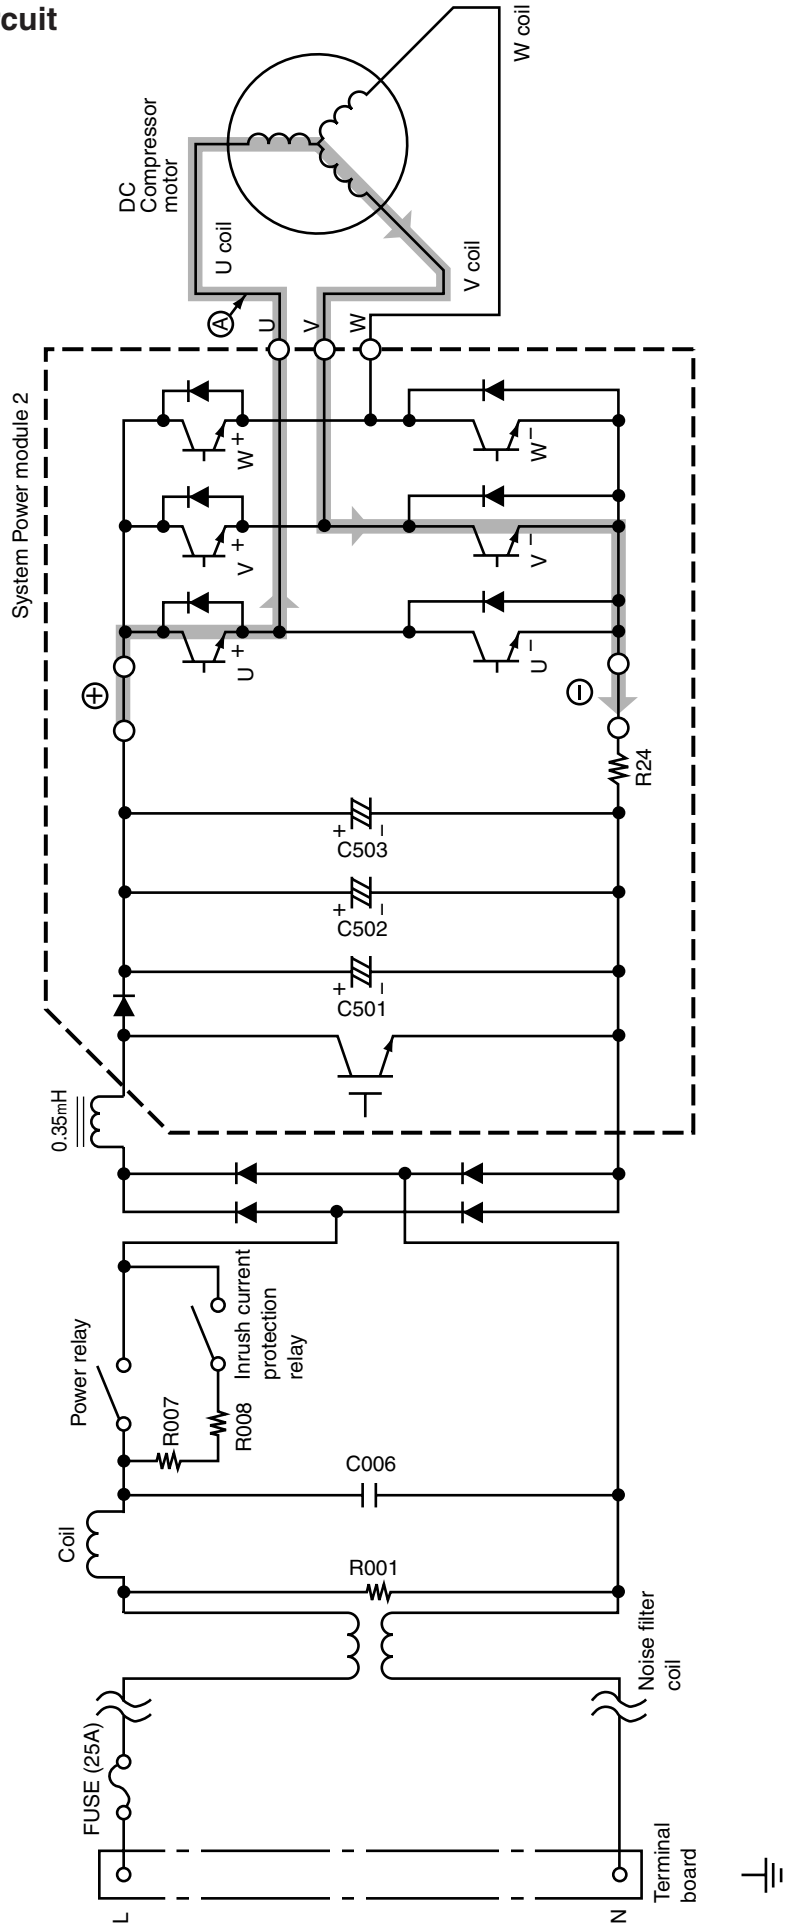
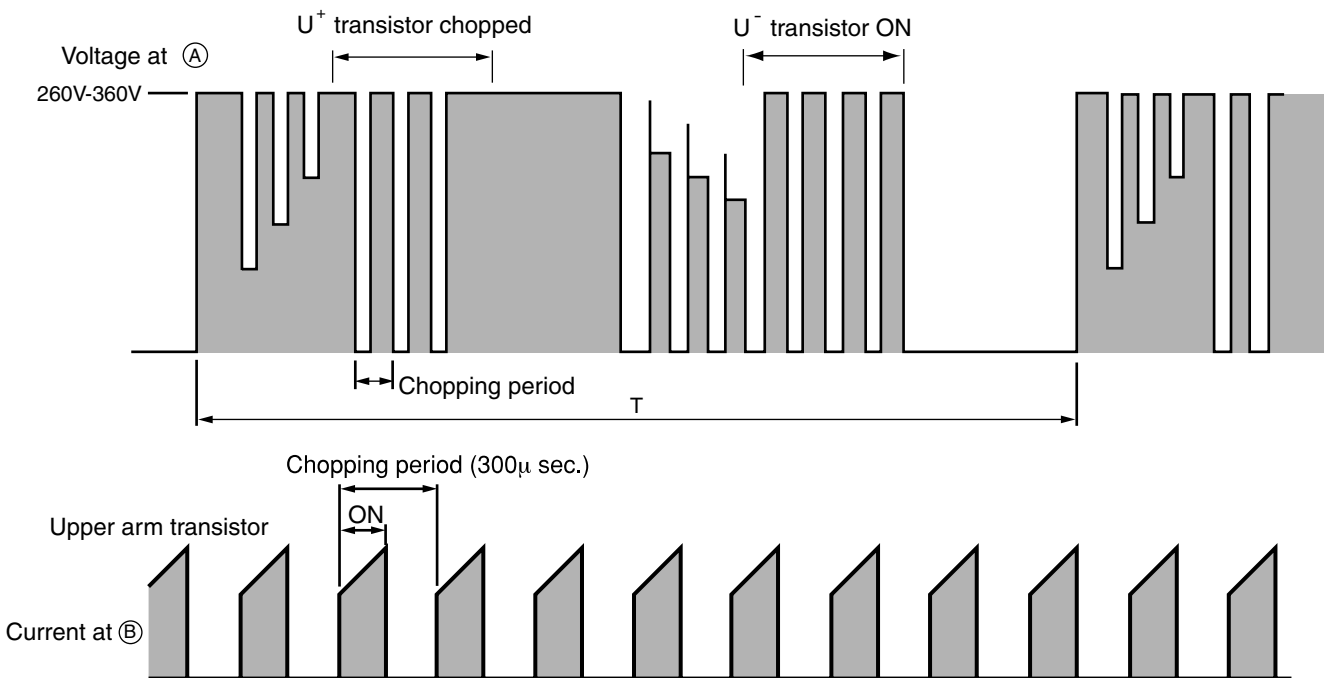

Fig. 3-1 Power module circuit (U+ is ON, V- is ON)
Fig. 3-3 Voltage waveform at each point
- Fig. 3-1 shows the system power module and its peripheral circuit. The three transistors on the positive ⊕ side are called the upper arm, and the three transistors on the negative ⊖ side are called the lower arm.
- Fig. 3-3 shows voltage waveform at each point shown in Figs. 3-1 and 3-4. First half of upper arm is chopper, second half is ON, and first half of lower arm is chopper, second half is ON.
- When power is supplied U+ → U-, because of that U+ is chopped, current flows as shown below; (B)
- (1) When U+ transistor is ON: U+ transistor → U coil → V coil → V- transistor → DC current detection resistor → Point (B) (Fig. 3-1)
- Since current flows at point ② only when U+ transistor is ON, the current waveform at point ② becomes intermittent waveform as shown in Fig. 3-3. Since current at point ② is approximately proportional to the input current of the air conditioner, input current is controlled by using DC current (Id) detection resistor.